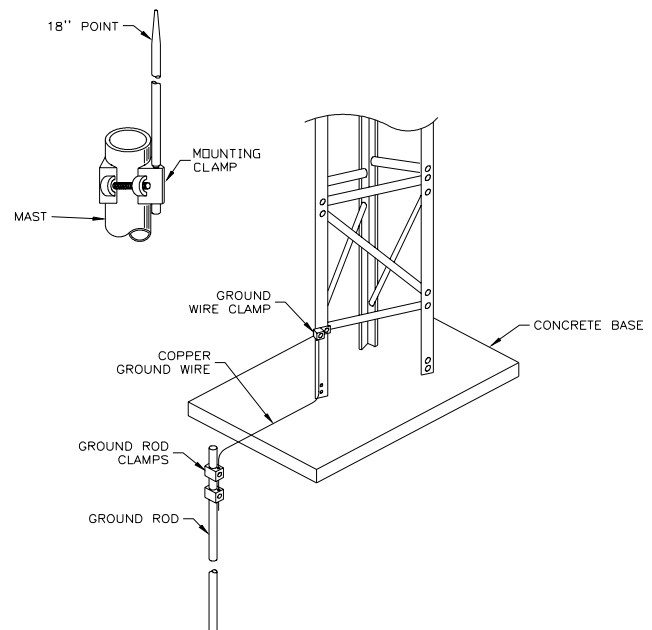

Figure 4
- 19 Install the 18" aluminum lightning rod to the top of the mast with the mounting clamp as shown in **Figure 4**.
- 20** Connect the copper ground wire to the tower base and to the ground rod with ground wire clamps as shown in **Figure 4**.